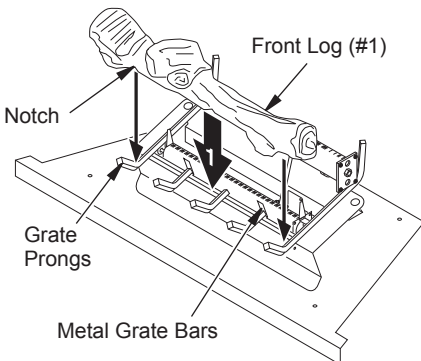

Figure 24 - Installing Front Log (#1)
1. Place front log (#1) on top of the grate. Make sure the notches in the bottom of the log fit over the grate prongs (see Figure 24). Push back of logs flush with metal grate bars.